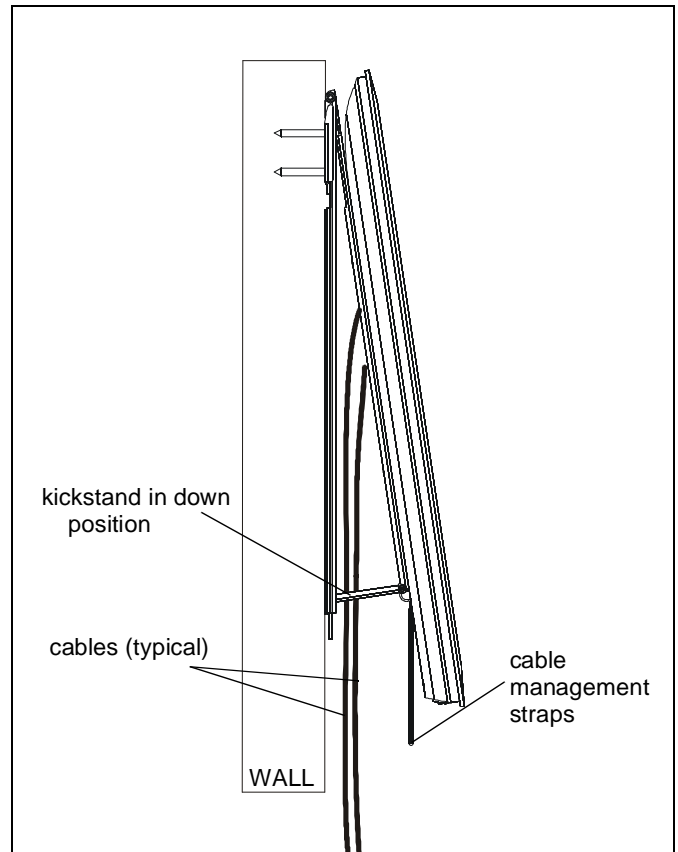

Figure 7
9. Slowly pull bottom of display away from wall until kickstand fully reaches its down position. (See Figure 7)
3. To disengage kickstand, slightly pull display away from wall and pull down on cable management straps to release kickstand. Slowly allow display to return to the wall. (See Figure 7)